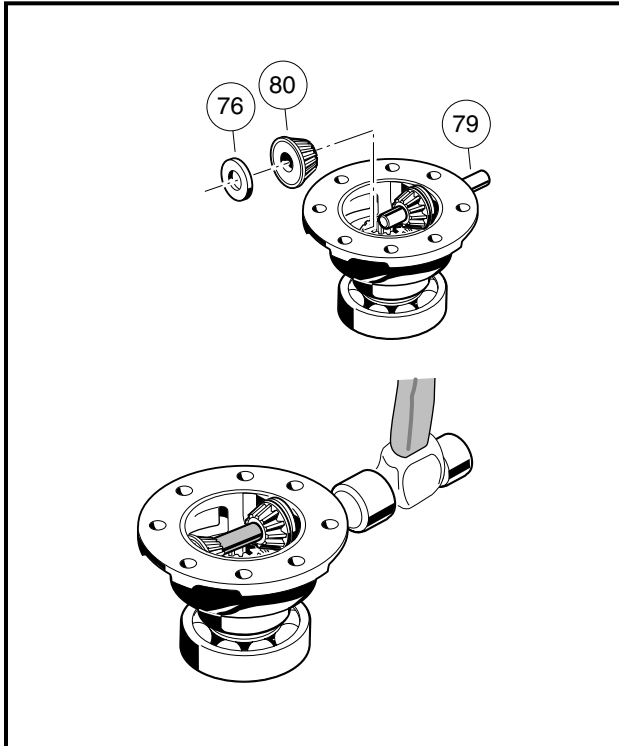

Figure 5-35 Second Idler Gear
4. Position the other thrust plate (76) and idler gear (80) in the carrier case. Continue to drive the pin through them and the wall of the carrier case until the ends of the pin are flush with the sides of the carrier case (**Figure 5-35, Page 5-20**).